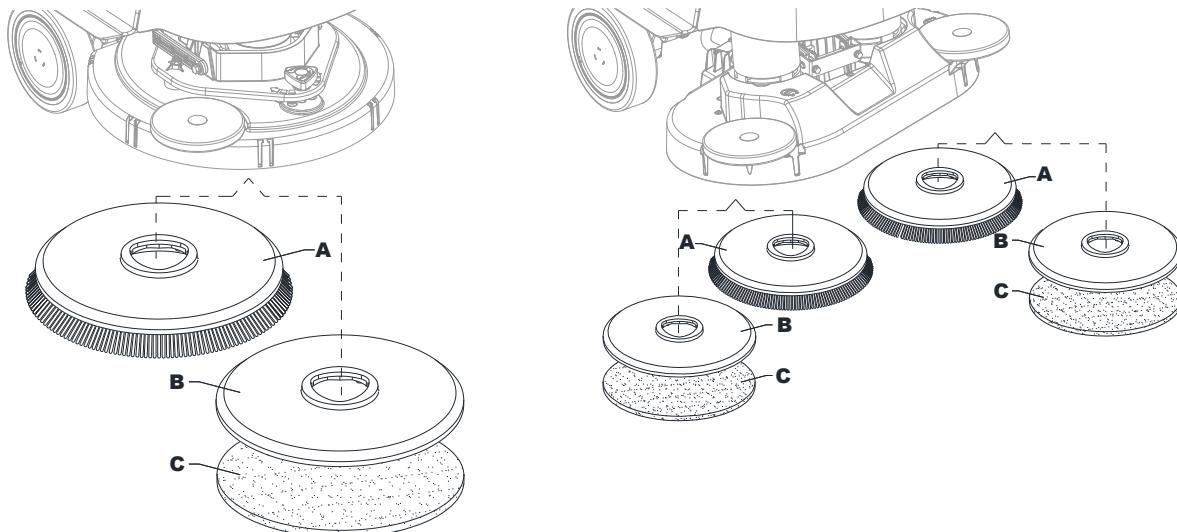

Figure 4
According to the kind of cleaning to be performed, the machine can be equipped either with the brush (A, Fig. 4) or the pad-holder (B) with pad (C) together with the appropriate deck.
1. Place the brush (A) or the pad-holder (B) under the brush deck (39) / Dual disc deck (43).
2. Press start/stop button (62) and enter password to start machine. Roto dial button (67) to select brush click on/off mode (71), press dial button (61) to confirm.